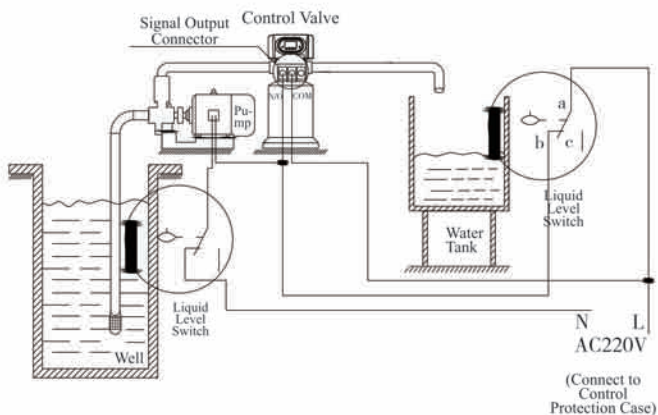

Figure 3-5 Wiring of Liquid Level Controller Controls Inlet Pump
**Instruction:** For the system using well or middle-tank supplying water, switch of liquid level controller and valve together control pump opening or closing. The wiring refers to Figure 3-5: